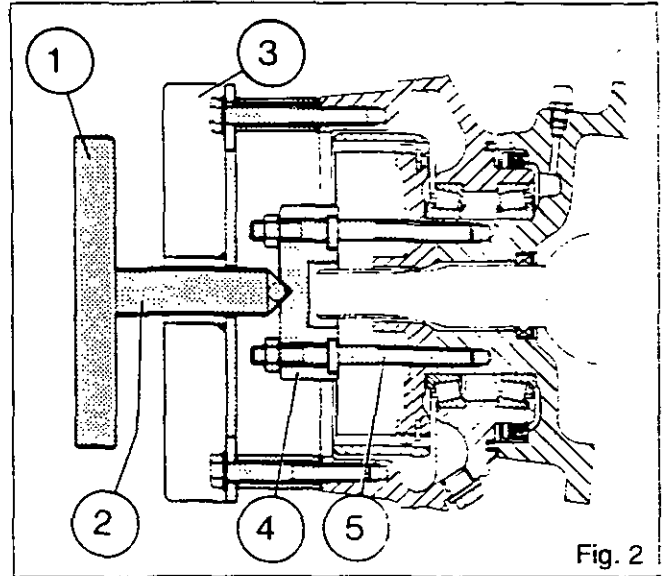

Fig. 2
- 30. Remove the circlip (29) and the sun gear (28). In view of the weight of the hub, place in a sling before removing.
- 31. Remove the screws (31).
- 32. Use a locally made puller (see section I) to extract the wheel hub (22) (Fig. 2).
- 33. Remove the ring gear (44) assembled on the ring gear carrier (42) with the circlip (24), the shims [26] and the bearing cone (25). The shrink-fitted dowel pins (27) should remain in the swivel housing (47).
- 34. If it proves necessary to replace the oil seal (45) and the bearing cones (18) and (25), remove the oil seal (45), extract the bearing cone (18) with a suitable extractor and disassemble the bearing cups (19) and (23).